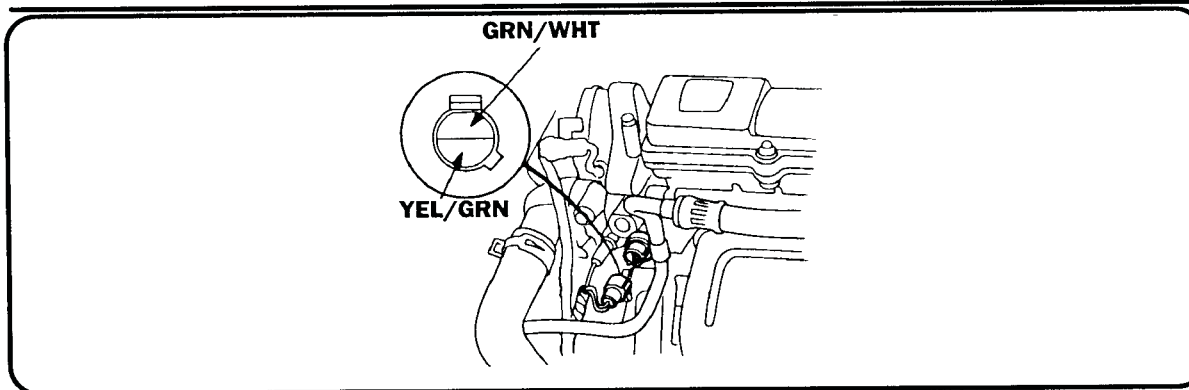

Figure 8.
The **Water Temperature Sensor (TW)** on the engine also sends information to the A/T controller to modify shift strategy. It should read approximately 200 - 400 ohms resistance across the terminals with the engine warmed up and the connector disconnected. With the key on and the connector disconnected there should be about 5 volts across the wire harness connector going to the Water Temperature Sensor. See Figure 8.